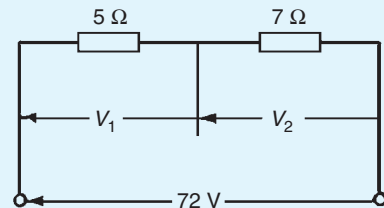

Figure 5.32
8. For the circuit shown in Fig. 5.32, find (a) V_1 , (b) V_2 , without calculating the current flowing. [(a) $30\ \text{V}$ (b) $42\ \text{V}$]